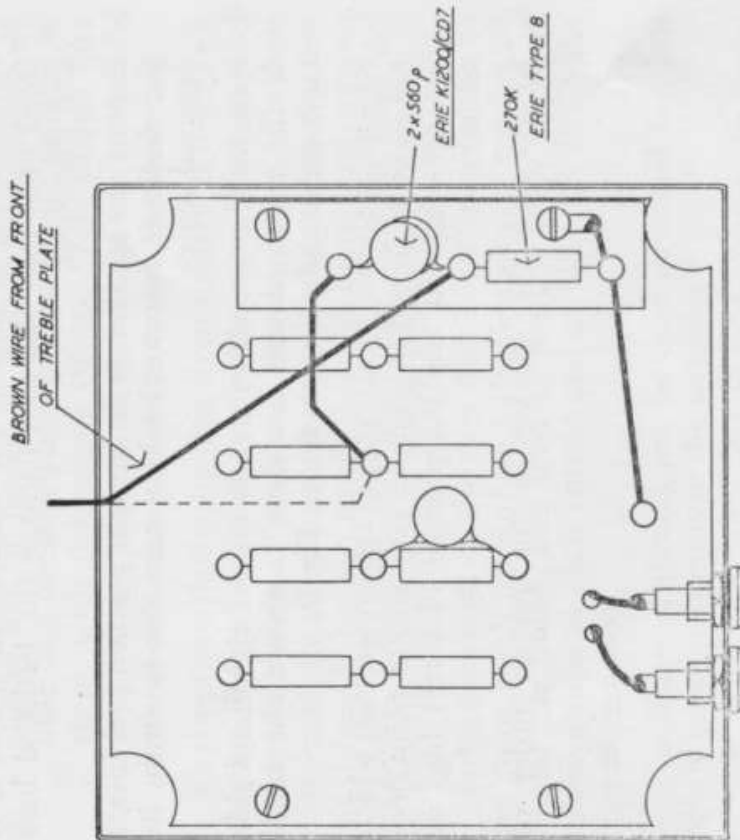

Fig. 2.
The components required can be obtained ready assembled on a tagboard, if required, and Fig. 2 shows this in position under the audio transformer. Alternatively, suitable resistors and capacitors from normal servicing stocks, may be used if preferred.
6. Remove the two drive screws on the righthand side of the tagboard and use these to secure the small tagboard supplied, as shown in Fig. 2.